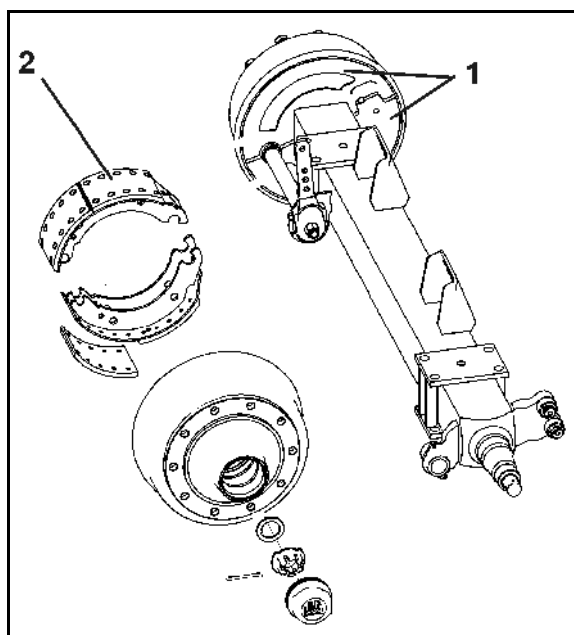

Fig. 83
1. Unscrew the two cover plates (Fig. 83/1) on the inside of the brake drum.
Dirt entering the drums may be deposited on the brake pads (Fig. 83/2) and thus appreciably reduce brake performance.